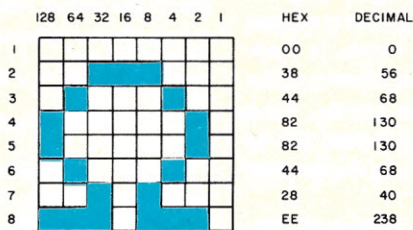

Fig. 1. 8 × 8 dot matrix and data for Ω.
2. Add up the numbers by decimal, not hex. The rightmost column is 1. Each subsequent column to the left is doubled. The leftmost column is 128. See Fig. 1.